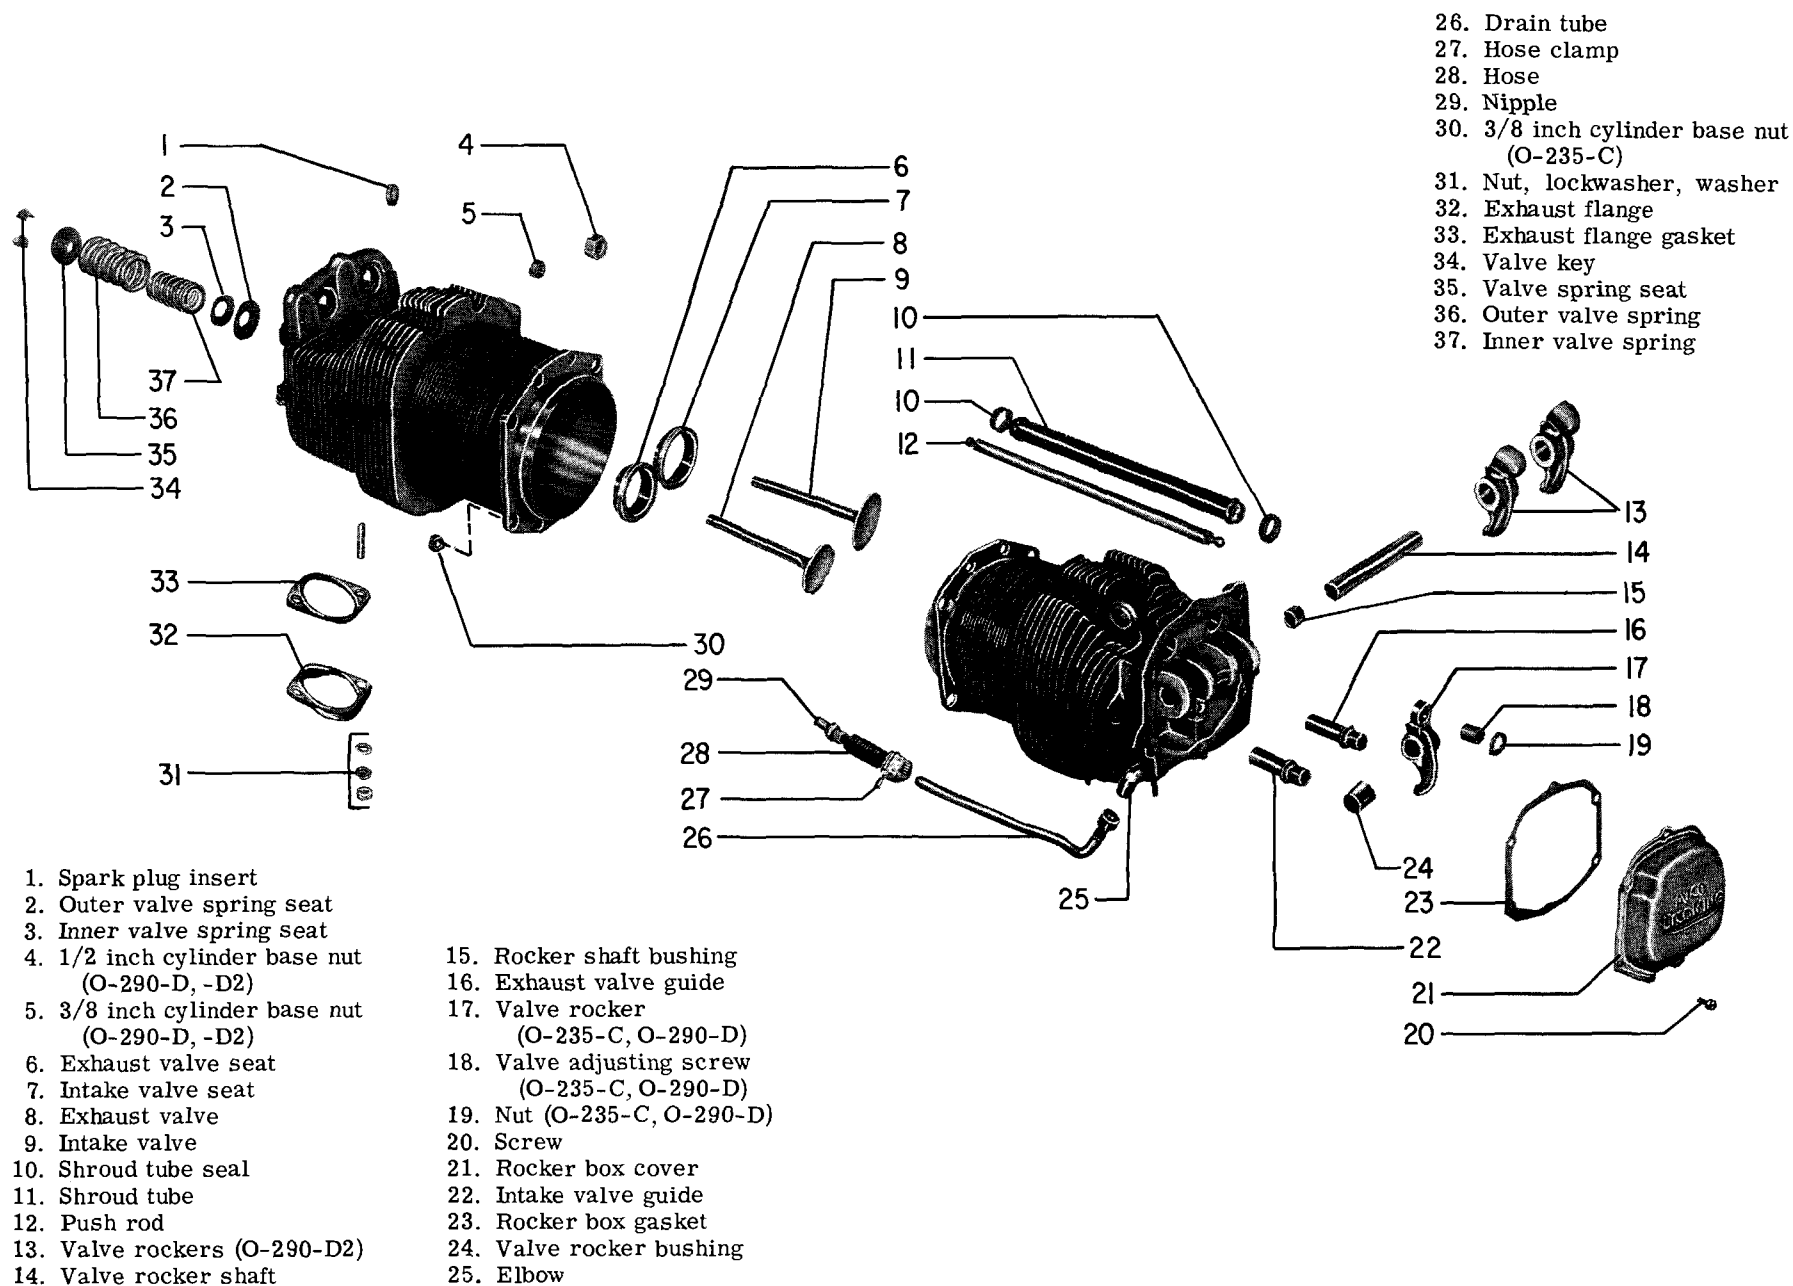

Figure 6-3. Parallel Valve Cylinder Assembly (O-235, O-290-D, -D2)
6-12. (O-235, O-290-D, -D2). See figure 6-3. Remove valve adjusting nuts (19) and screws (18). Note that the shroud tubes on these models cannot be removed until the cylinder is removed. Remove the valve rocker shafts (14) and valve rockers (13 or 17). Remove the push rods (12) from the shroud tubes.